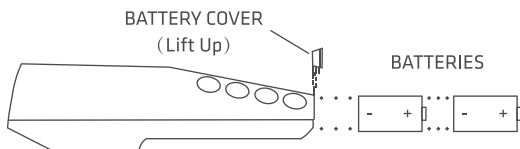

Figure 2
1. See Figure 2. Use a thumb to push open the battery cover located at the bottom of the detector.